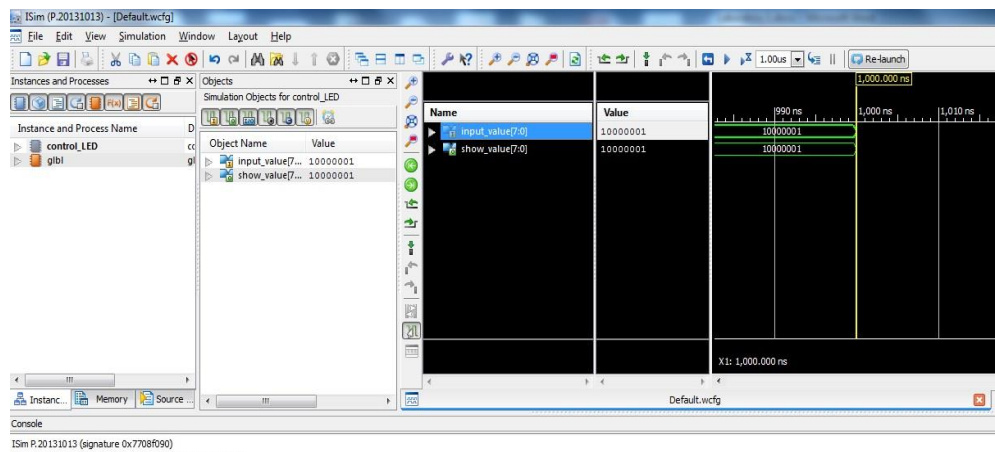

Fig.6: Functional Simulation
27. You should be able to see Fig. 6. You can see that the inputs and the outputs match. Play with the zoom buttons to zoom in or out the waveform. If inputs and outputs are same, your code is functionally correct. You just now performed “**Functional Simulation**” to test the functional correctness of your code. Try repeating steps 25 and 26 for other input values.
30. Go back to **Simulation** view and Select **led_tb** file. you should note that it has been set as the top module. Repeat the operation from 23 to 27 but this time you don’t need to force constant value on the input. You will observe the same waveform as Fig.6 with a little difference-a 100ns delay on the initialization of signal of **input_value** and there is a **respond latency** between **input_value** and **show_value**, because in this simulation logic gate and wire latency are considered by the simulator.